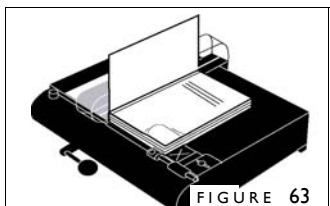

FIGURE 63
4. Lay the book block, front facing up, on the right side of the Platform with its bottom edge resting against the Guide Rail (figure 63). It is OK if part of it rests on top of the Centering Guide. Push the spine of the book block against the spine portion of your cover that is folded up.